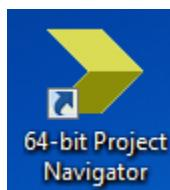

Figure 2. Project Navigator desktop icon.
1.1. Start the Project Navigator (Figure 2)